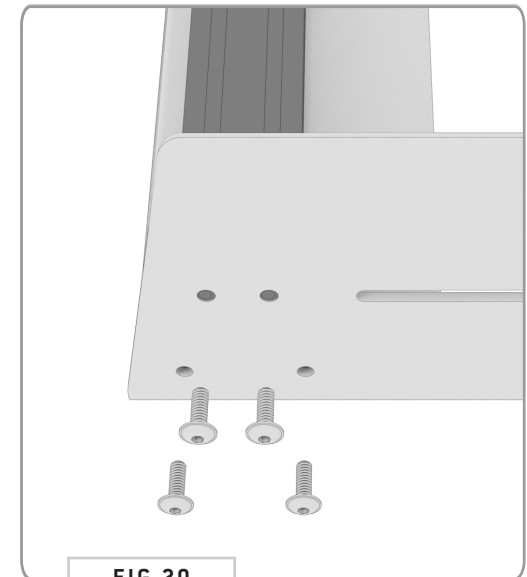

FIG 20
6.3 Fairing Install: Now you're ready to attach the **Rear Spoiler** to the roof rack. Slide it in from the back and into the location shown in FIG 20 and tighten down using (8) 1/4-20" Flange Head Screws.